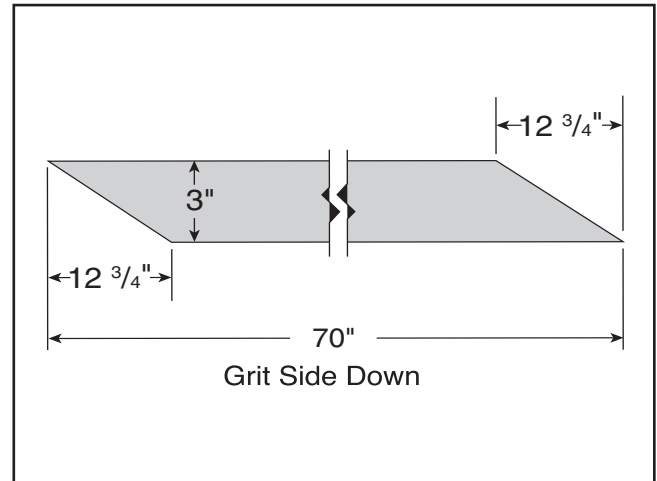

Figure 17. Sandpaper pattern.
4. Use the old sandpaper as a pattern to cut out the new sandpaper, or use the pattern in **Figure 17**, to cut the sandpaper to the necessary shape.